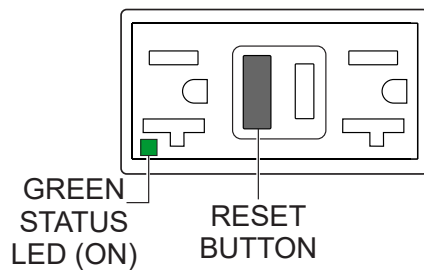

Figure 190. GFCI Receptacle (ON/Restore)
5. Press the **RESET** button (Figure 190) to restore power to the GFCI receptacle and verify that the status LED is **ON (GREEN)**.